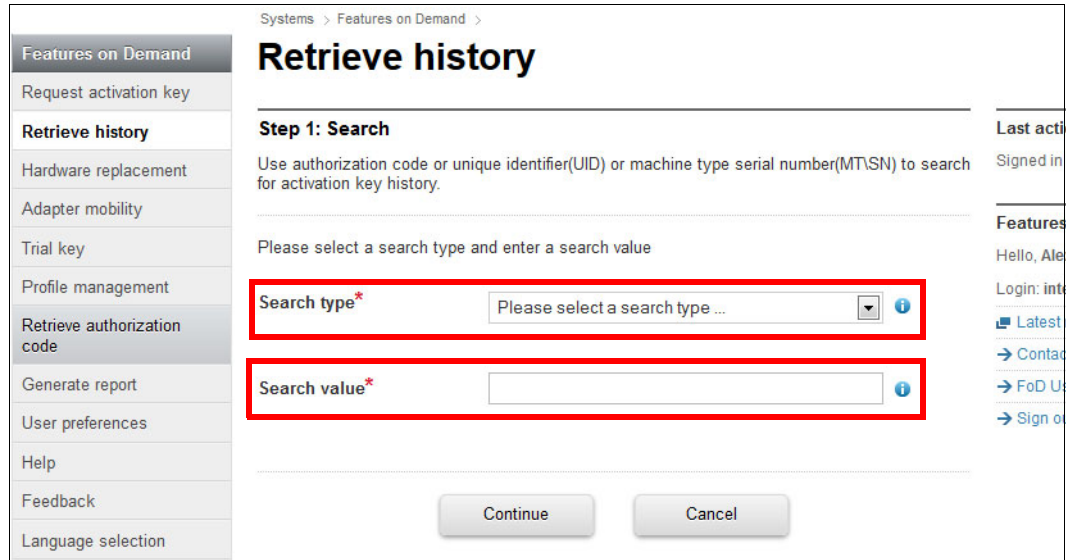

Figure 2-45 Retrieving activation key history
- As shown in Figure 2-45, select a search type. (The authorization code, UID, and machine type serial number search by types are available.) Enter the authorization code, UID, or the machine type serial number in the Search value field. Click **Continue**.